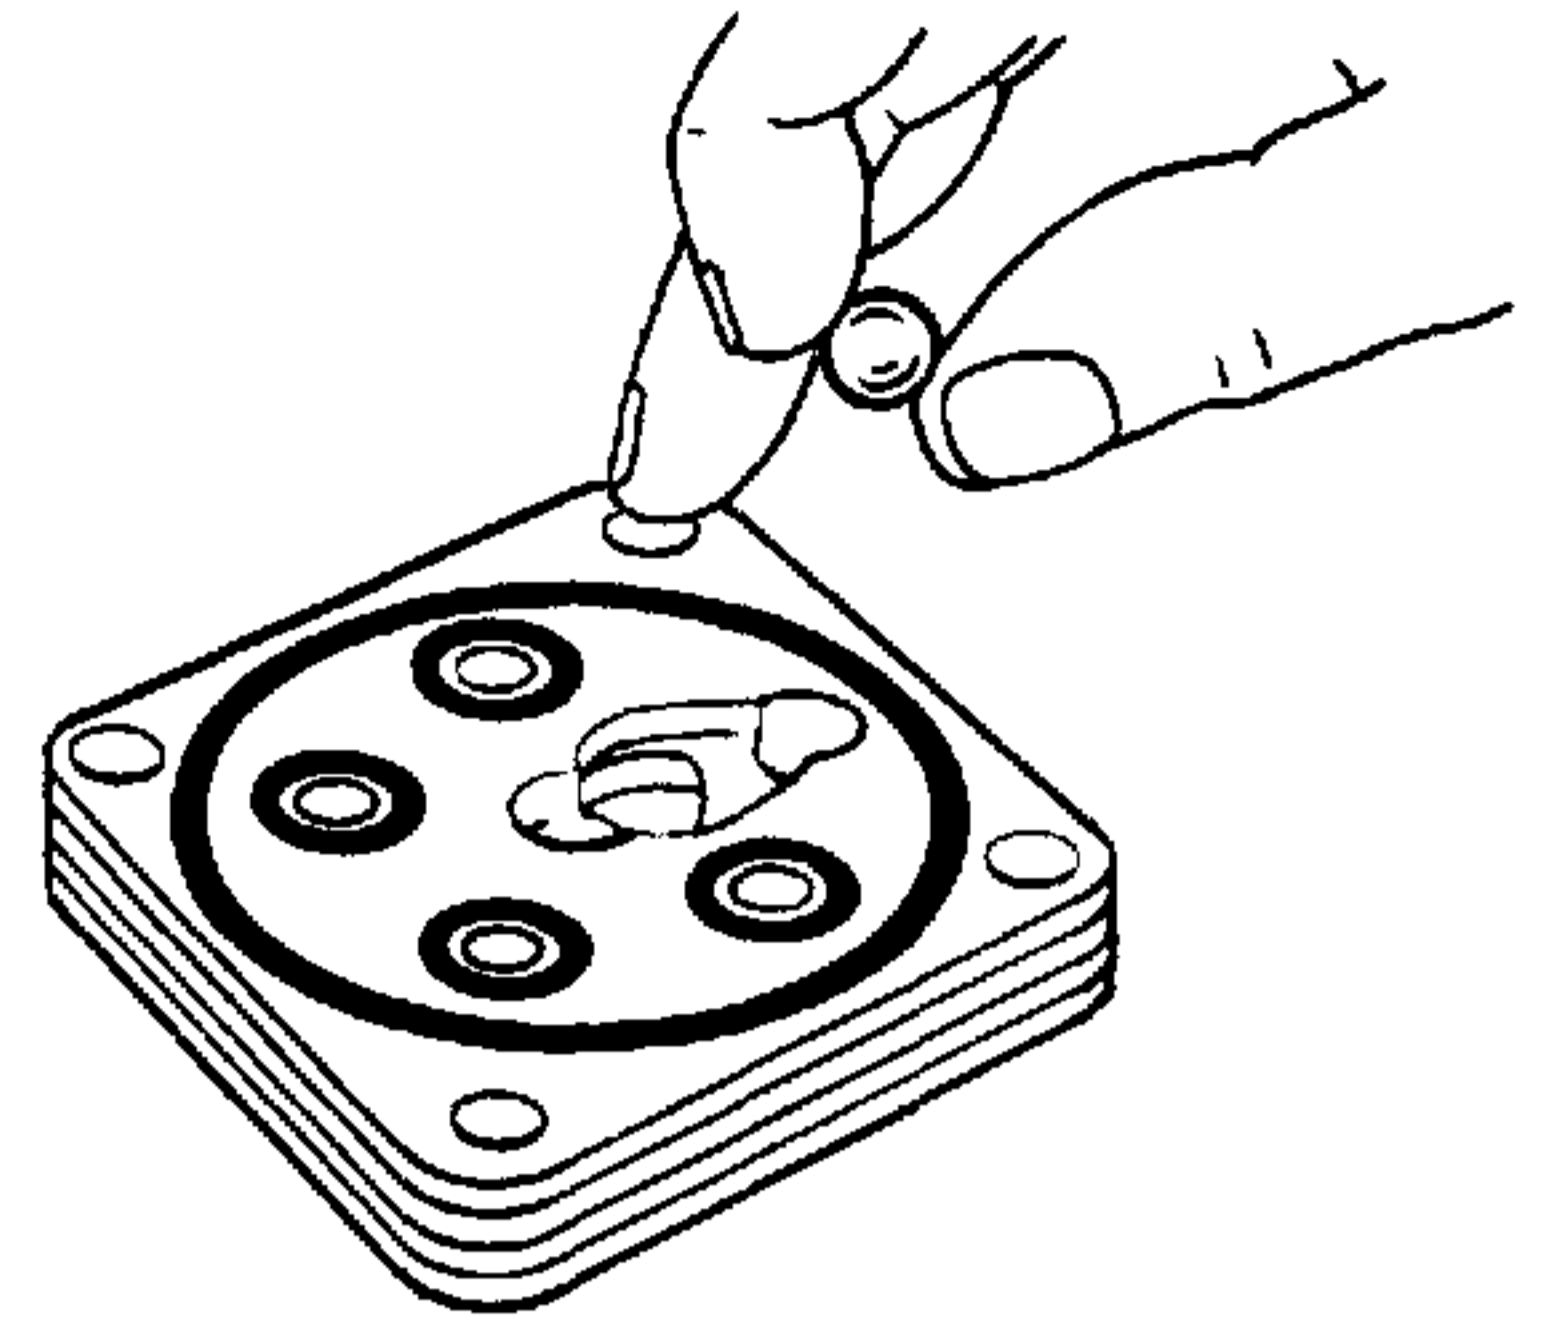

Figure 4-87. Installing Check Ball.
39. Insert check ball (3, Figure 4-1) into check ball hole in power cylinder cover (2). Be sure ball (3) is seated in bottom of check ball hole. See Figure 4-87.